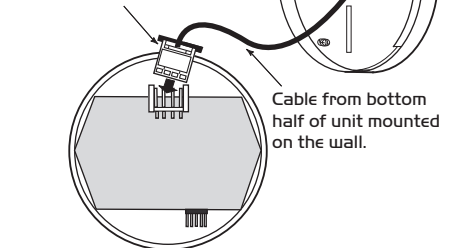

Figure 5.
g) Align the slots of the upper and lower halves of the unit and twist the upper half clockwise to lock the 2 halves together. (see Fig. 5).